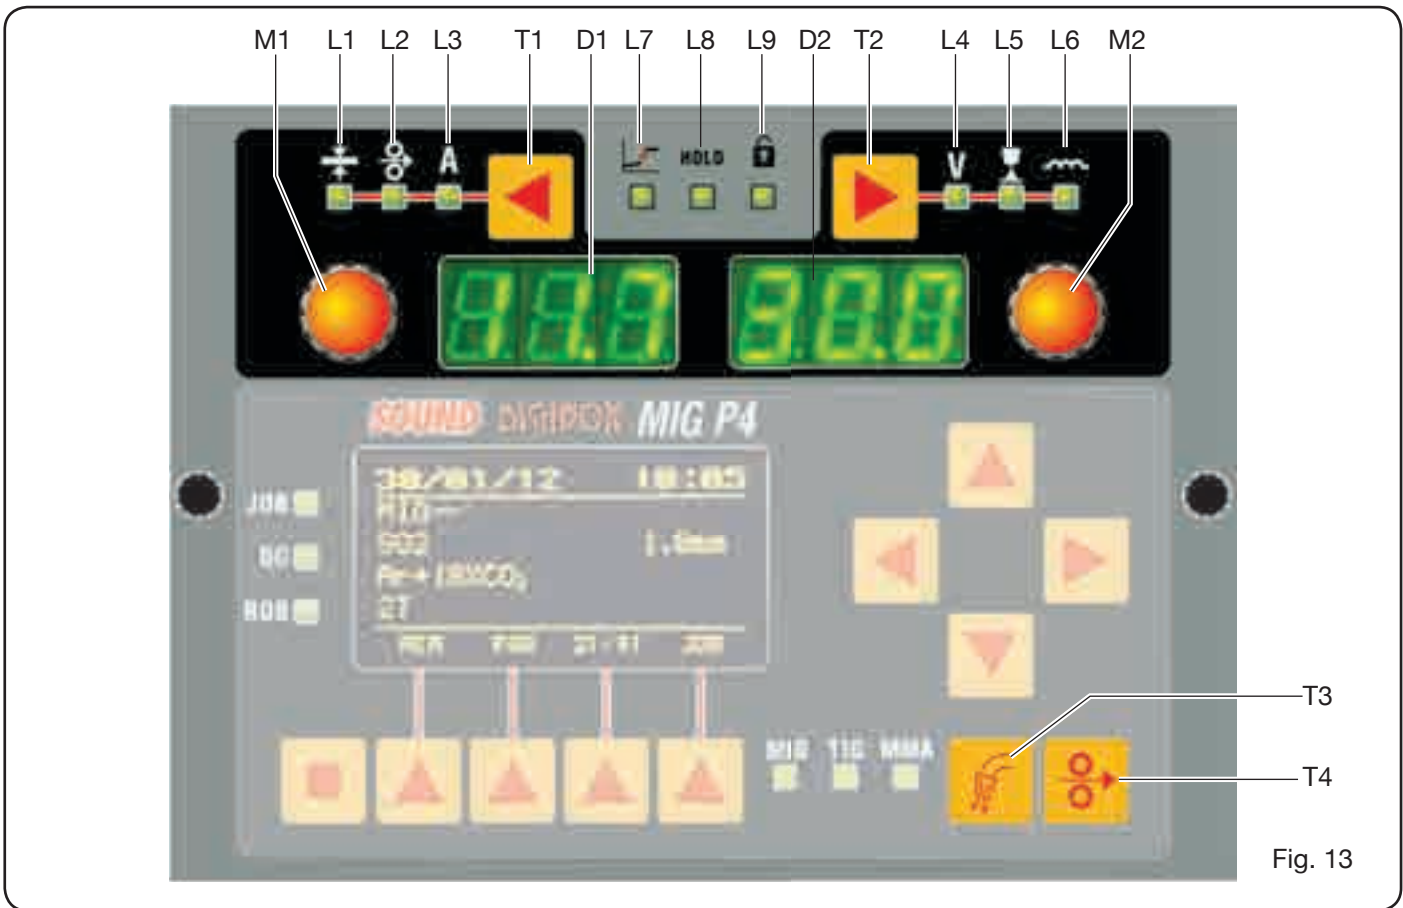
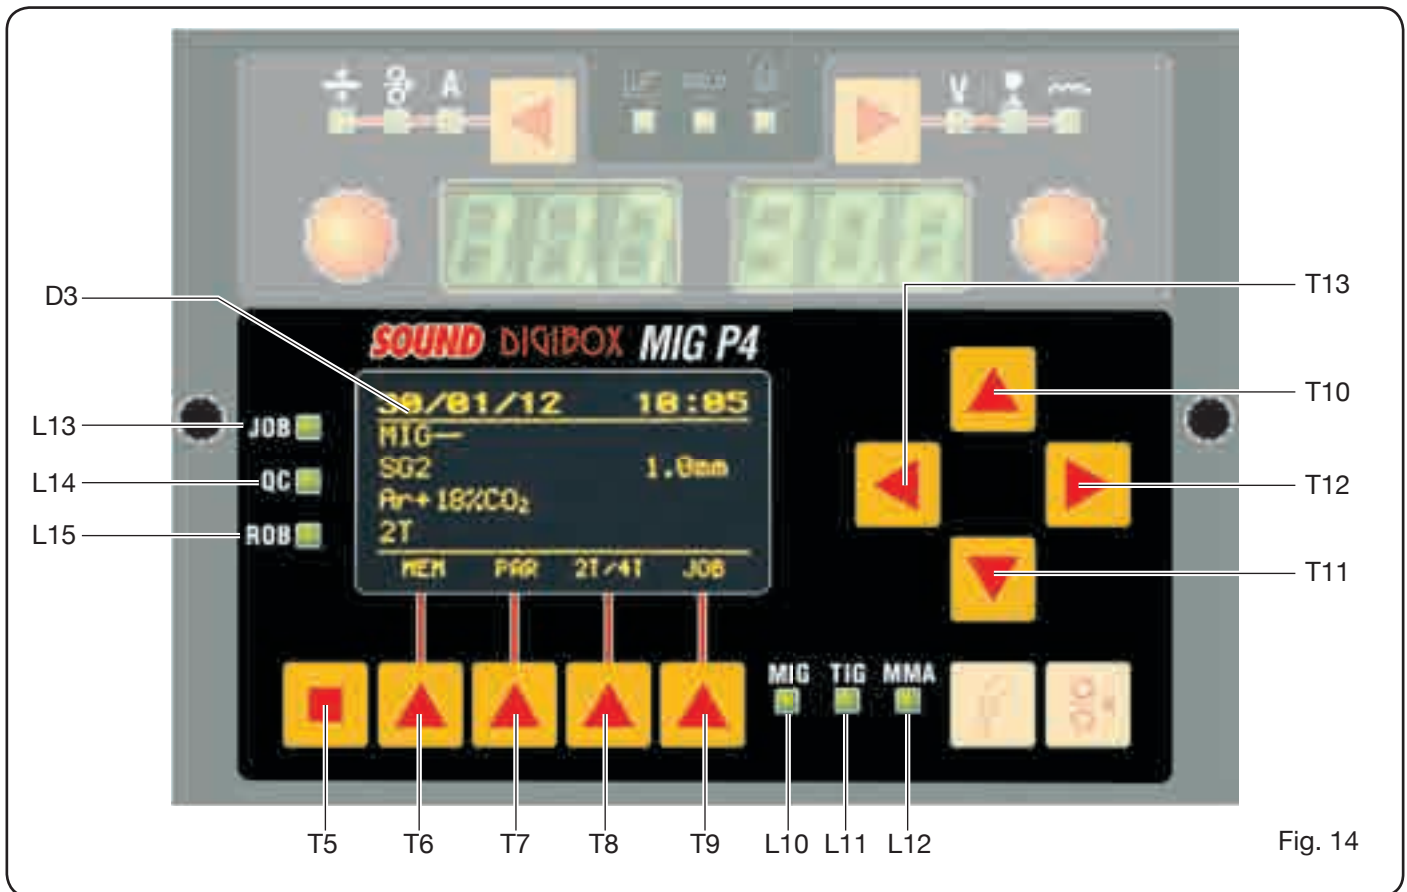

Fig. 13
Fig. 14
The control panel consists of a **control area** (Fig. 13) and a settings area (Fig. 14).
6.1 CONTROL PANEL (FIG. 13).
6.2 SETTINGS PANEL (FIG. 14).